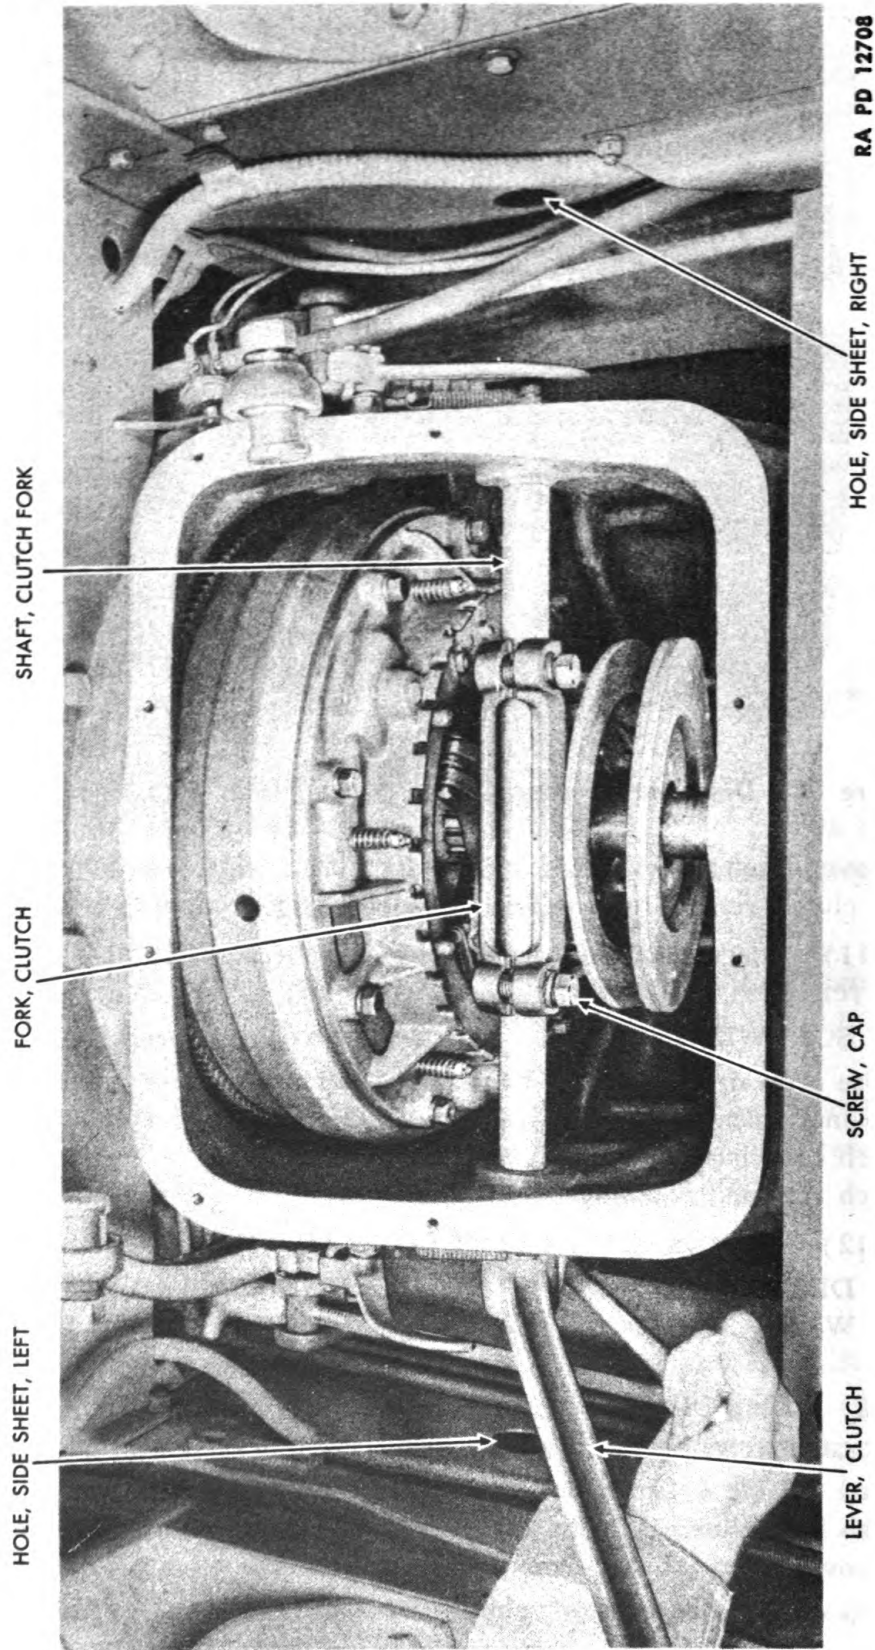

Figure 14 – Clutch Fork Shaft Removal
(12) REMOVE CLUTCH FORK SHAFT (fig. 14).